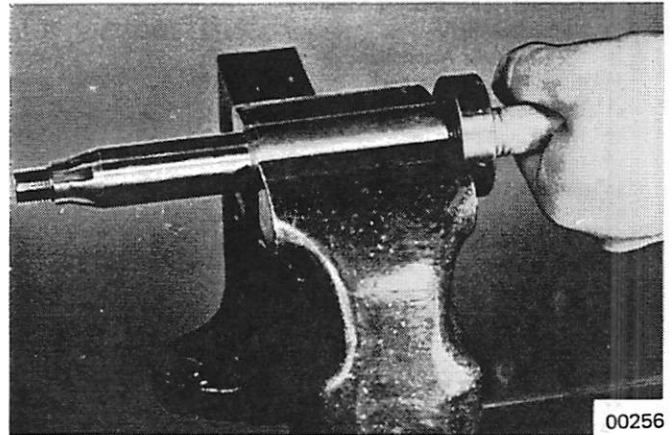

Figure 3. Removing Ball Bearing from Drive Shaft
6. Ball bearing can be removed from drive shaft by placing against open vise jaws and tapping on splined end of drive shaft with a mallet. (Figure 3)